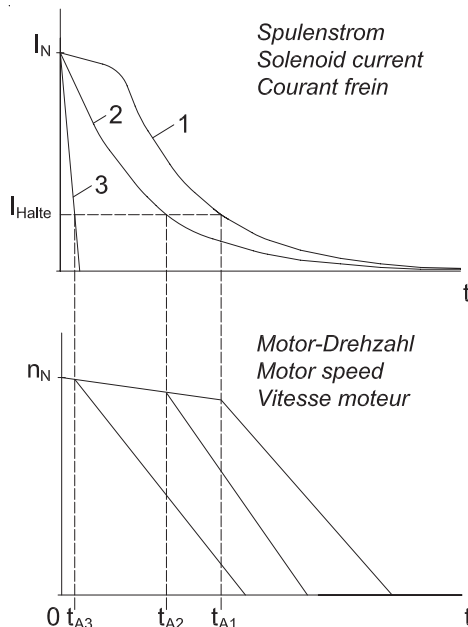

Figure 3: Development of the solenoid current and the motor speed after AC (1, 2) and DC (3) disconnection
- a) Rectifier supply from the motor terminal board (Figure 3, graph 1) Response time  $t_{A1}$ : very long
- b) Separate rectifier supply (Figure 3, graph 2)
#### 4.1.2.2 Interruption in the DC switching circuit of the solenoid (Figure 3, graph 3)